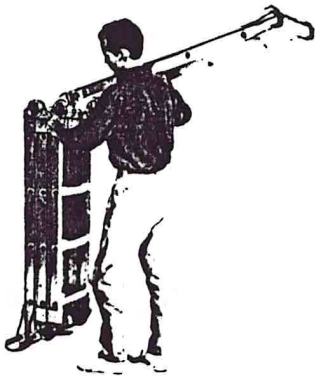

FIGURE 1.
- 1) Begin with ladder in fully folded position. Unlock two hinges on outside section. Raise section (figure 1) and relock outside hinges.